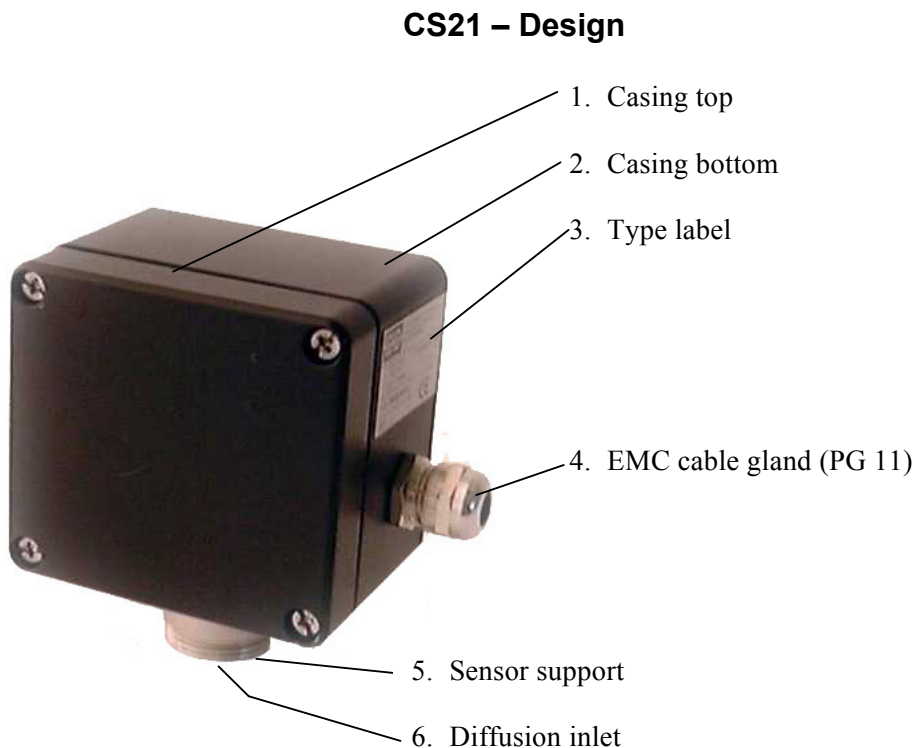

Fig. 2
The design of the CS21 is shown in Fig. 2. The sensor is mounted in the sensor support (pos. 5). Gas enters the sensor chamber through the diffusion inlet (pos. 6). The casing (pos. 2) includes a resin encapsulated p.c. board with electronic components. The electronics convert the measurement signal into the output of 0.2 .. 1 mA or 4 .. 20 mA, which is transferred to the controller by a cable.